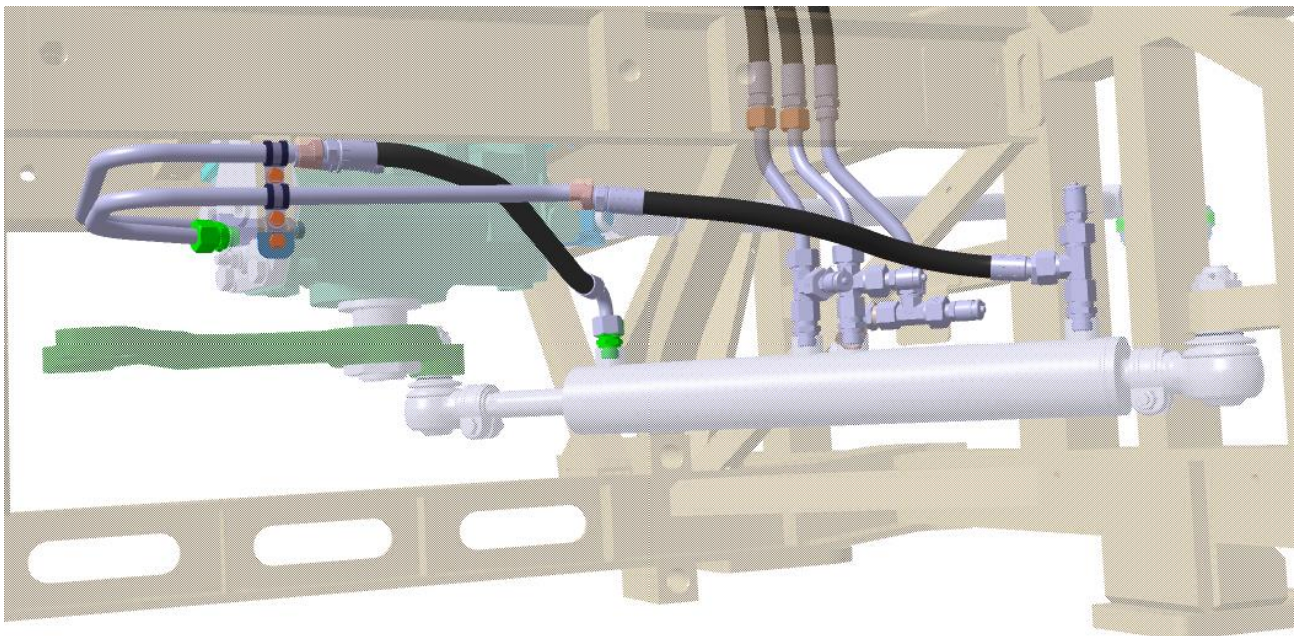

Figure-9
6. Fix the hose and pipe on the chassis with MH020805Y with using MH020805Y numbered clip as shown in the picture below (Tightening torque value is **3.69 ft-lb / 5Nm**). (See **Figure-9**)